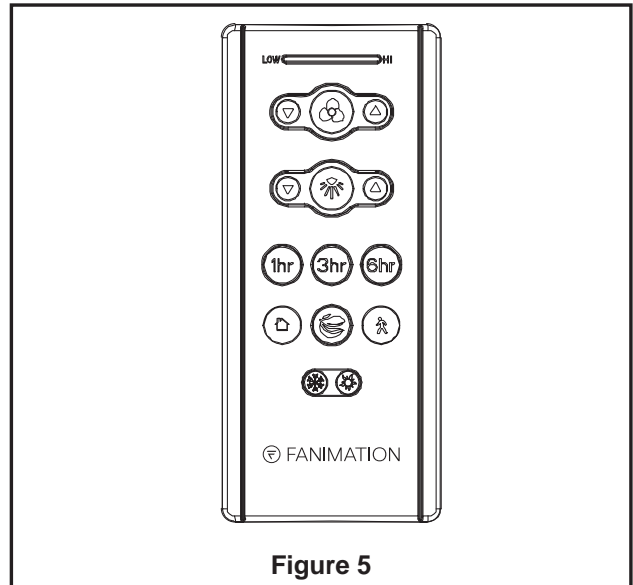

Figure 5
4. After connections have been made, taking care not to pinch the wires, put the white and green leads to one side and the black leads towards the other side. The wires should be spread apart with the grounded conductor and the equipment-grounding conductor on one side of the outlet box and the ungrounded conductor on the other side. (Figure 5)
5. Remote functions: (Figure 5)